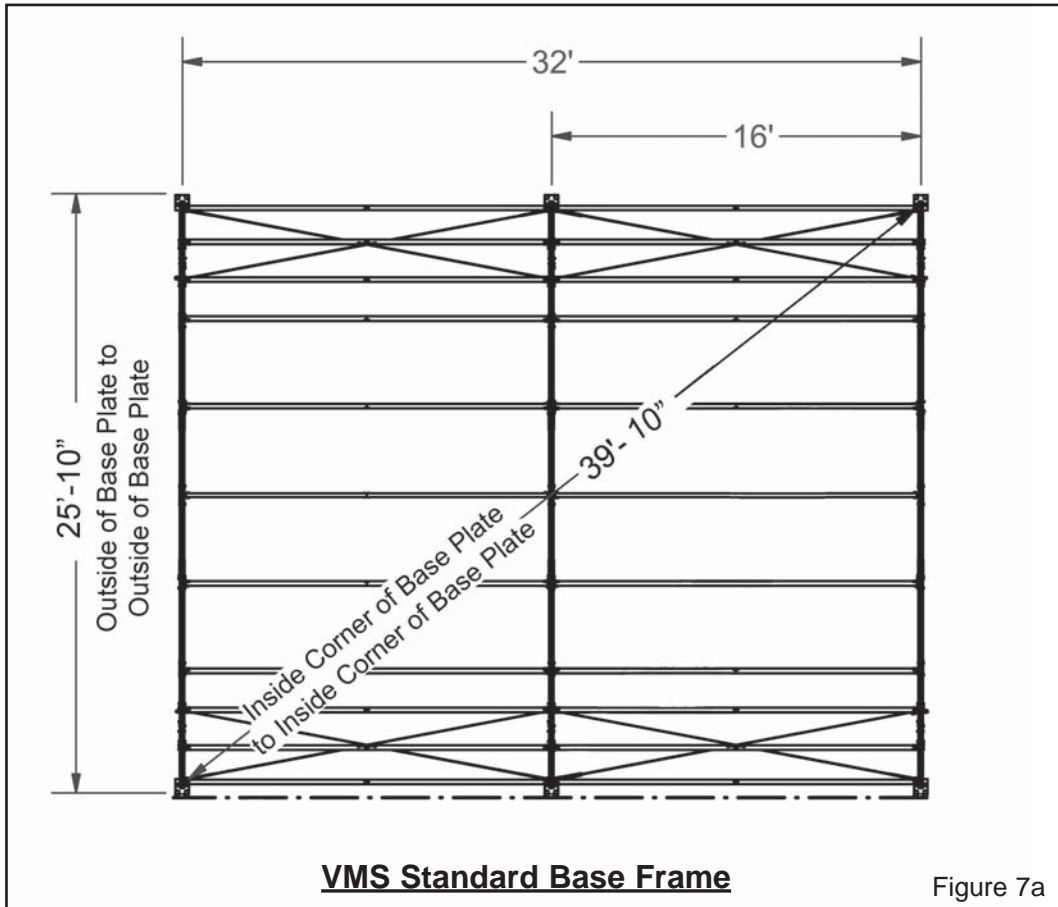

Figure 7a
- Position one end base plate 25'-10" from the other end base plate. Measurement is from outside edge of plate to outside edge of plate. See figure 7a.
- Then measure from this base plate diagonally to the opposite base plate. Measurement should be 39'-10" from inside corner to inside corner. See figure 7a.